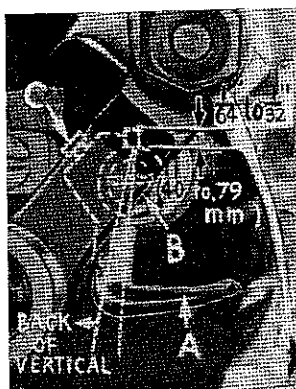

Fig. 7
Insert upper looper (A, Fig. 7) in its holder. Screw (B) holds upper looper in its holder and permits it to be pushed in or out, or turned around its shank. Insert upper looper holder into upper looper shaft (if not already in place). Screw (C) on the clamp holds the upper looper holder in the shaft. Locate upper looper in its holder so that the shank extends $1/64$ to $1/32$ inch (.40 to .79 mm) beyond holder (Fig. 7).